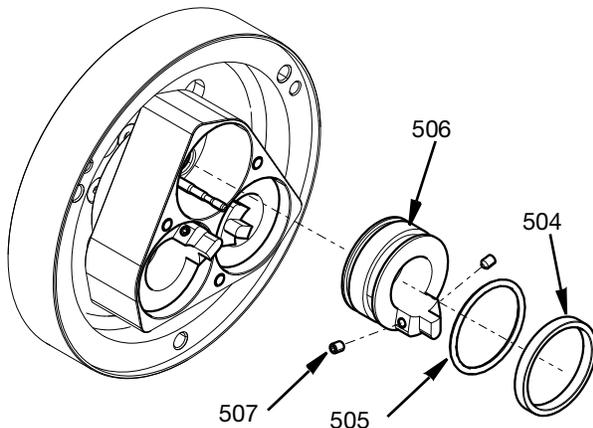

FIG. 14
3. Remove the piston (506) by loosening the two M4 set screws (507) which unlock the piston and rod shutoff valve. Once the screws are removed the piston (506) is accessible. The O-Ring (505), and the guide ring (504), can be removed. See FIG. 14